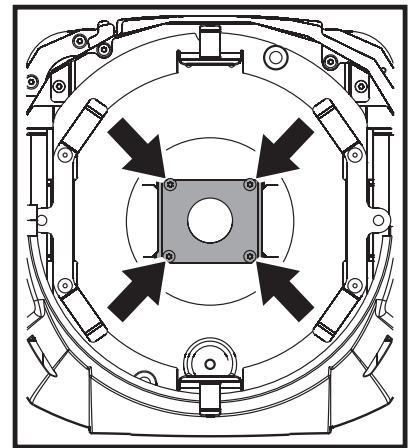

Figure 4
6. See Figure 4. Remove the four screws (arrowed) that hold the aperture plate in place inside the front of the head. See Figure 5. Remove the aperture plate and install the new aperture plate with shield plate (P/N 23819530) supplied in the Kit in its place, re-using the original four screws. The shield plate in the aperture plate must face upwards as illustrated to protect the wiring in the head from sunlight that might be focussed into the head by the new front lens assembly.